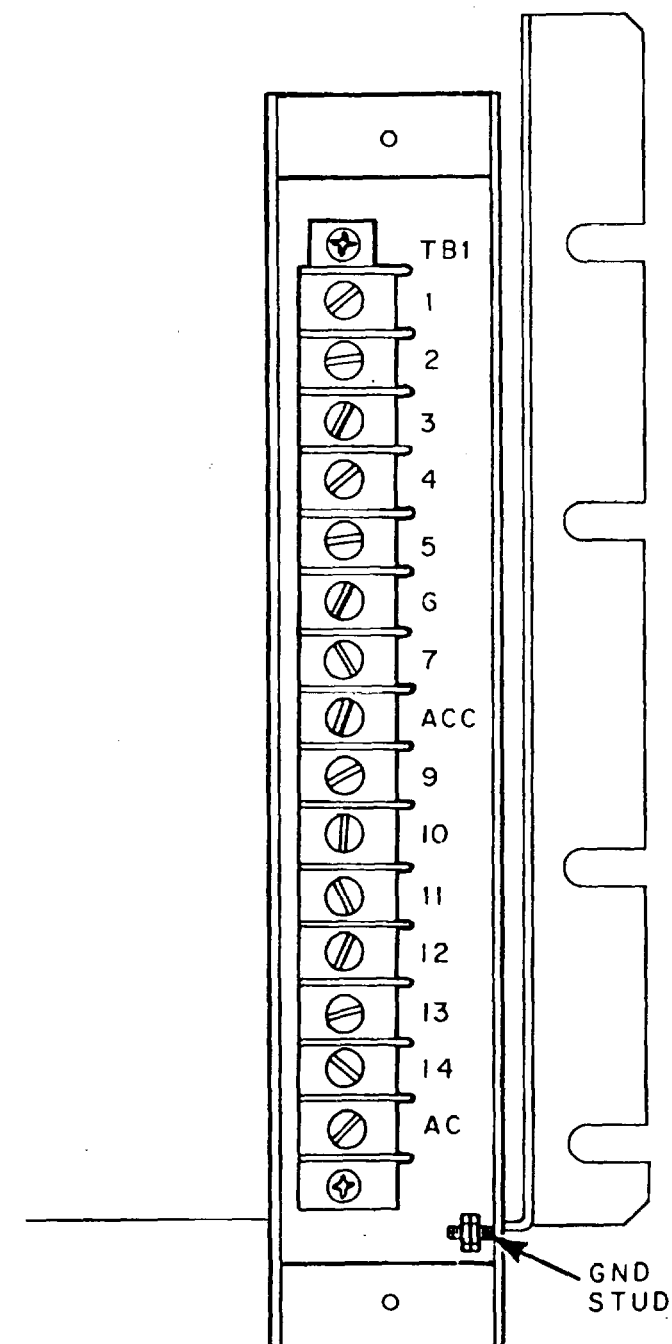

Figure 3-6. FPA Power Compartment Terminal Block
- d. Connect fixed plant power to terminal block shown in Figure 3-6 using the configuration chart of Table 3-3.
- e. Using a Phillips head screwdriver, secure power compartment box cover (12) to power compartment box with two pan head screws (9), lock washers (10), and flat washers (11).